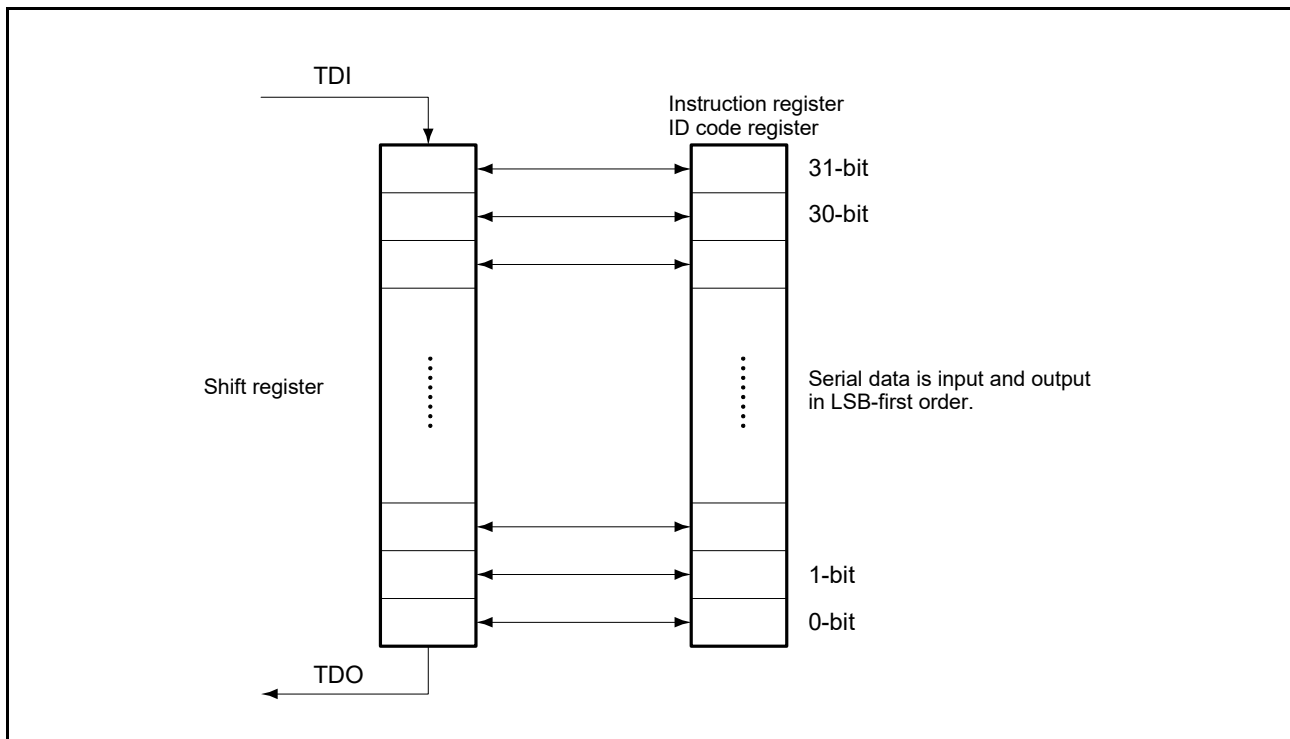

Figure 31.3 Serial Data Input/Output
1. For serial transfer, data are input or output in LSB-first order. See Figure 31.3.